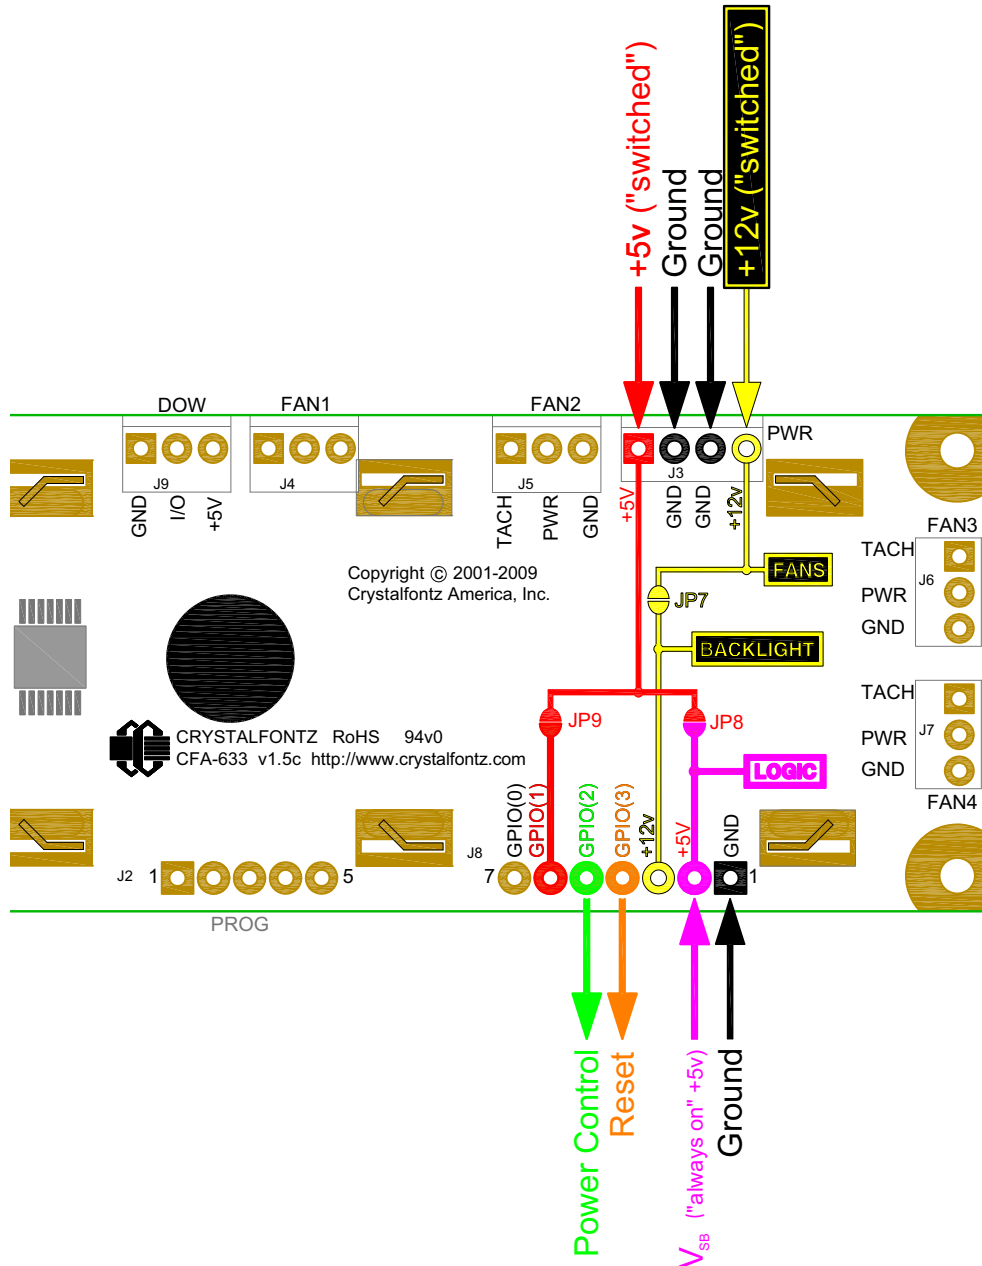

Figure 9. CFA633-YYB-KS ATX Power Supply and Control Connections
*JP7 must be opened for the operating range of +12v fans to be different from +12v backlights (listed in this table). If JP7 is closed (which is the factory default), then the voltage specification range for backlights must be observed for both backlights AND fans. Please see Figure 9. on Pg. 26 .